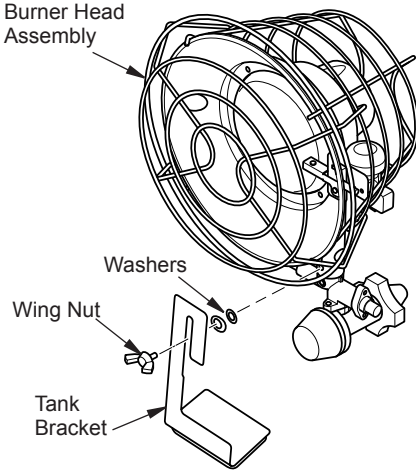

Figure 1 - Attaching Single Burner Assembly to Tank Bracket
2. **For 15,000 BTU Models** Remove wing nut attaching regulator assembly to the burner. Use wing nut and washers to attach tank bracket to the burner assembly as shown in Figure 1.